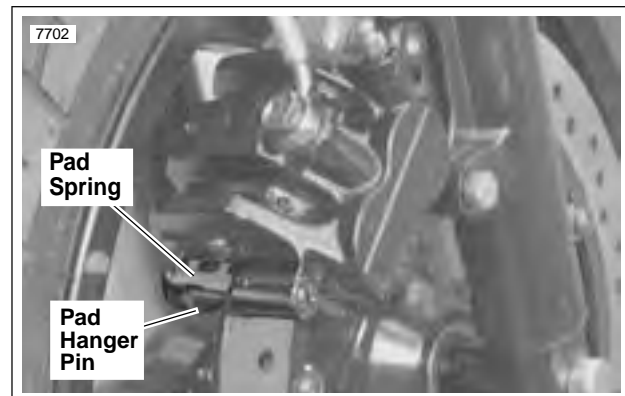

Figure 2-4. Pad Spring
- b. See Figure 2-4. Remove pad hanger pin (metric).